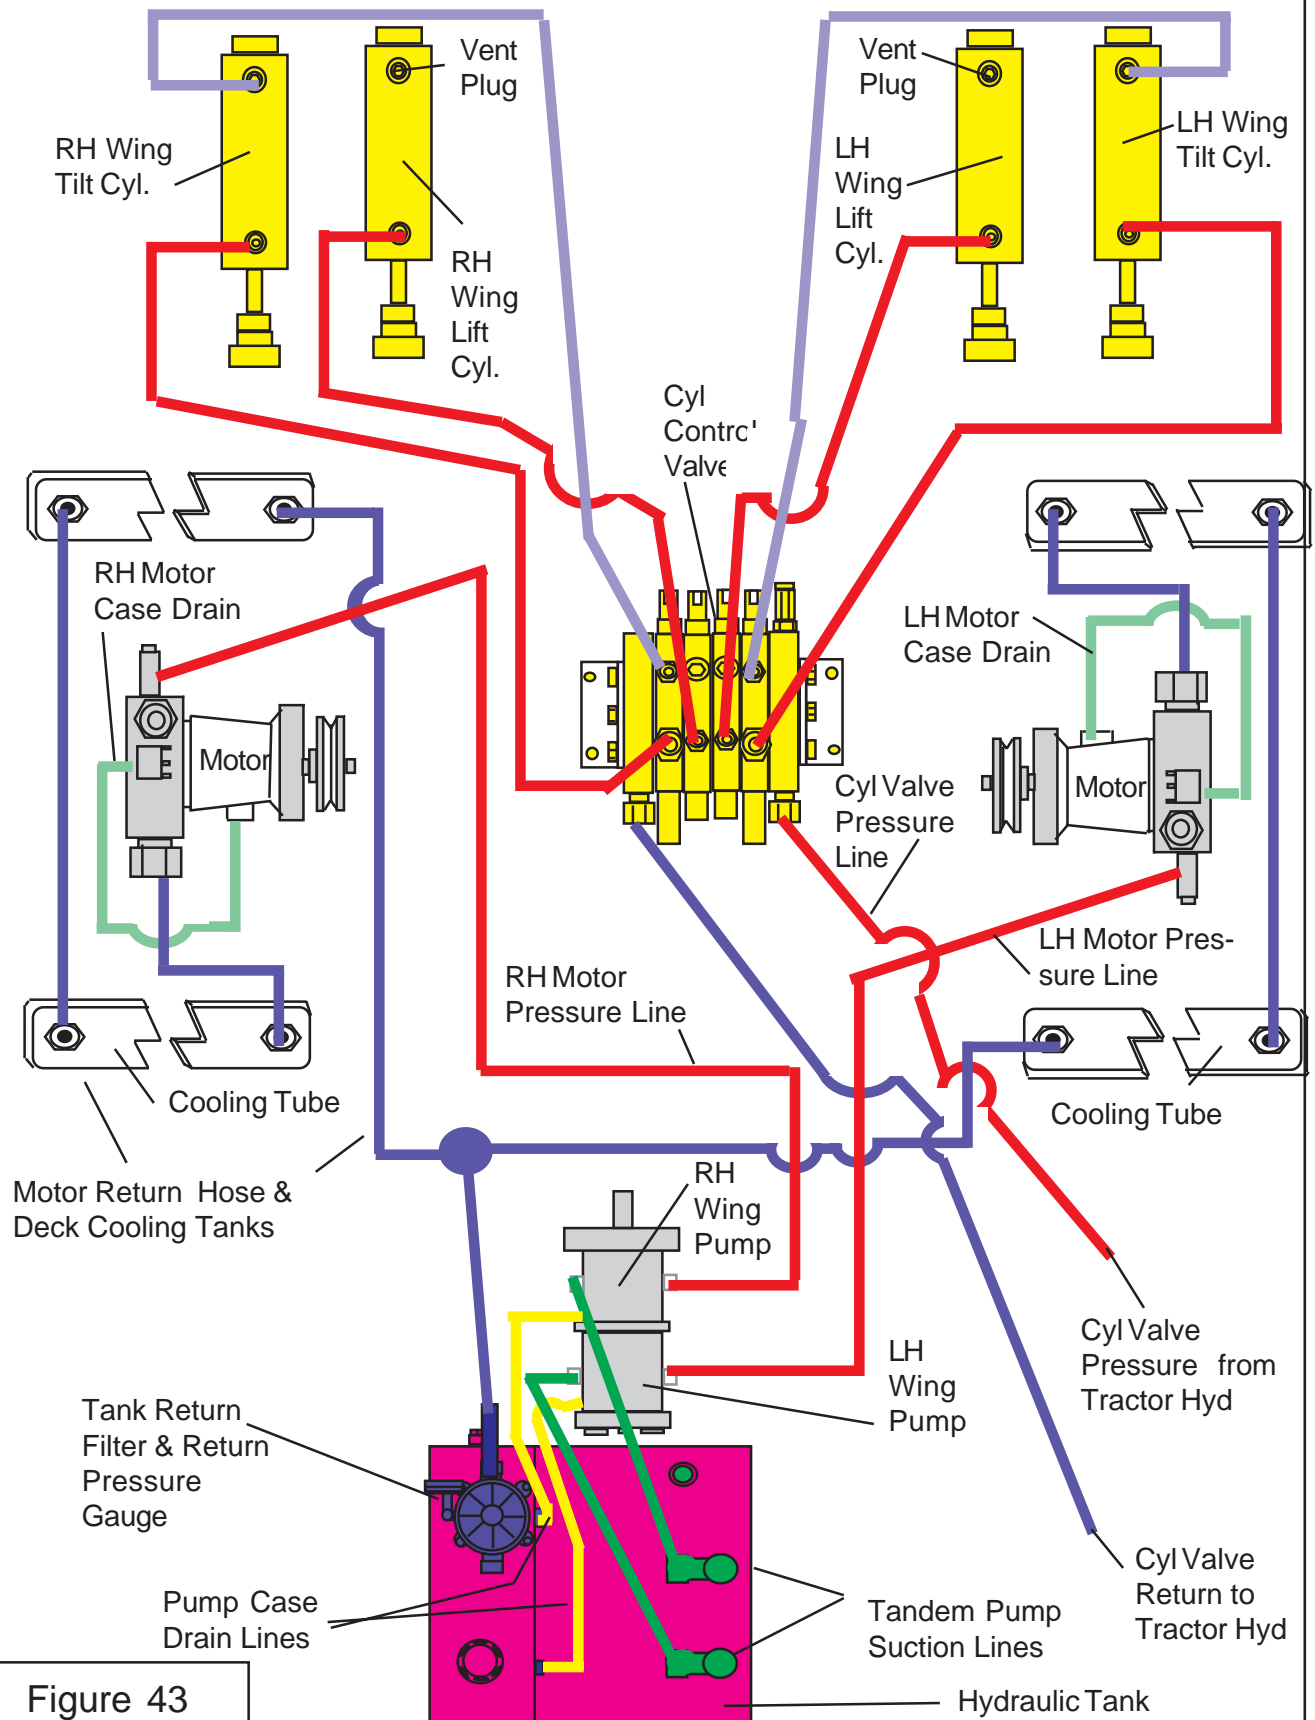

Figure 43
- C. Figure 43, Hyd Schematic Single Pump for single Wing using tractor hydraulic pump for cylinder control